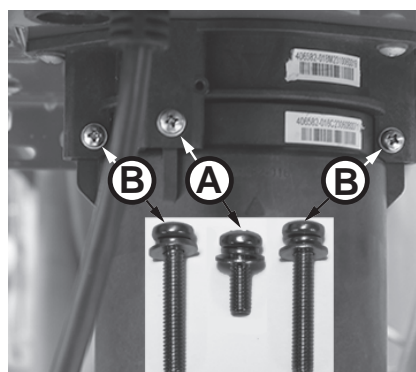

Figure 214 - Identify cartridge screws
- 6 Locate the three (3) screws securing the X3®/Bypass cartridge as shown in Figure 214. Remove the **(A)** M4-12mm screw and the two **(B)** M4-25mm screws from cartridge. Place screws aside in a safe place for reinstallation.